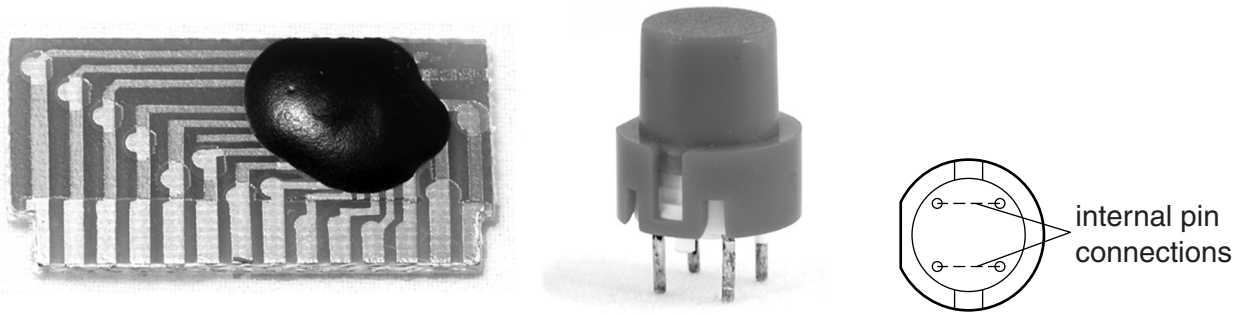

Fig. 11
- 4 An electronic toy for a child uses a small module to produce four different animal sounds. A sound is made when the input for that sound is connected to the positive supply. The module and the type of switch to be used are shown in Fig. 11.